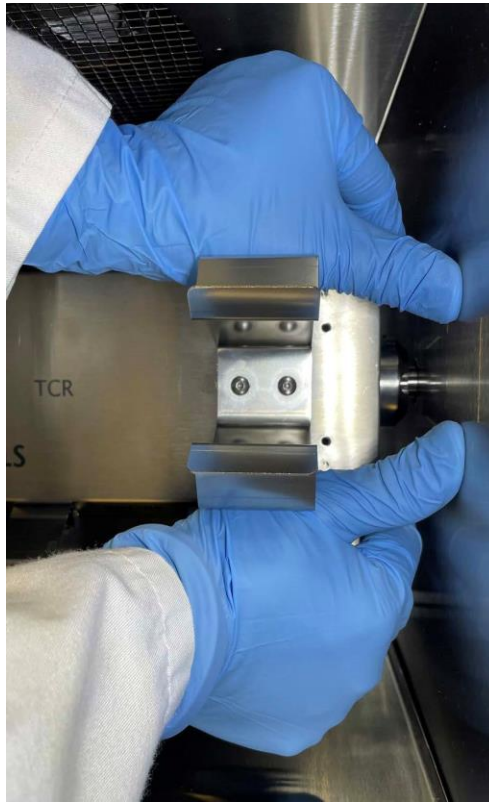

Figure 2.1 Carousel Removal by Pushing Left
1. Turn power switch to the OFF (O) position.
- ▶ Insert the extended fingers of both hands between carousel and right-hand chamber wall, as shown in Figure 2.1, and push against the wall with both thumbs. Avoid using carousel clips as handles, because they may bend.